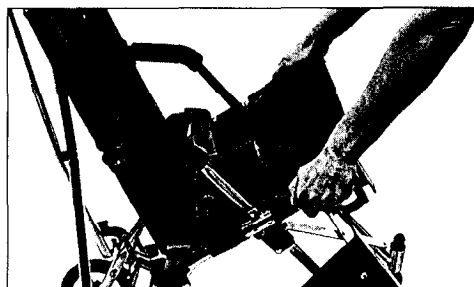

Fig.3
3. Press down firmly on seat tubes to ensure the chair is completely unfolded. **Fig.3**